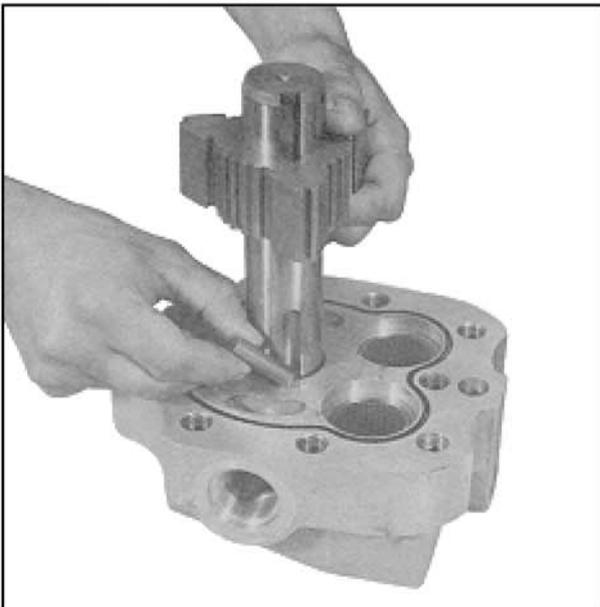

FIGURE 9
11.) Lift the rotor up, which will expose the drive key. Remove the drive key. (Fig. 9)